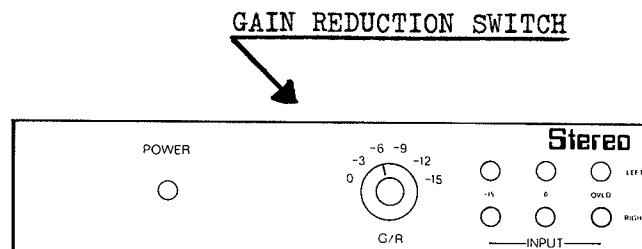

FIGURE 3-2 GAIN REDUCTION SWITCH
3.1.2 Gain Reduction Switch (Figure 3-2)